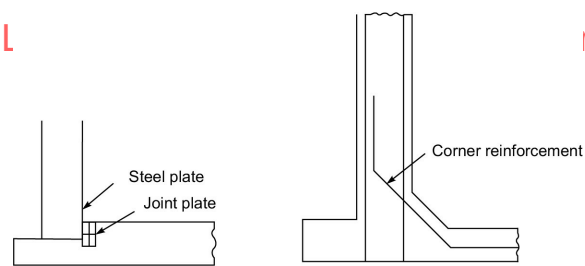

Fig. 7.5
* For surface water tanks the walls may have sliding base or rigid base (Fig. 7.5).